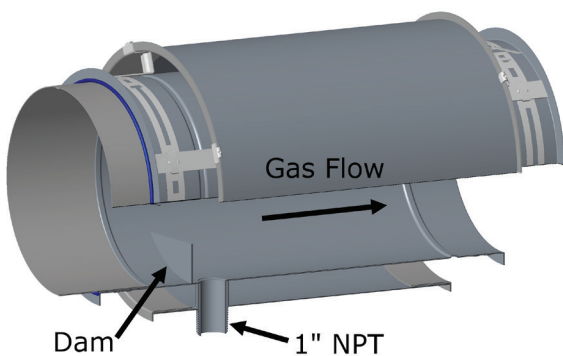

Figure 9- Horizontal Drain Length
1. Horizontal Drain length is equipped with a 1" (25) NPT nipple, which is attached to the inner flue and extends through the outer casing to provide a path to drain, condensate or water from the chimney. See Figure 9.
3. The duct drain is intended for use at the end of a horizontal run where access and drainage is needed (see Figure 9).